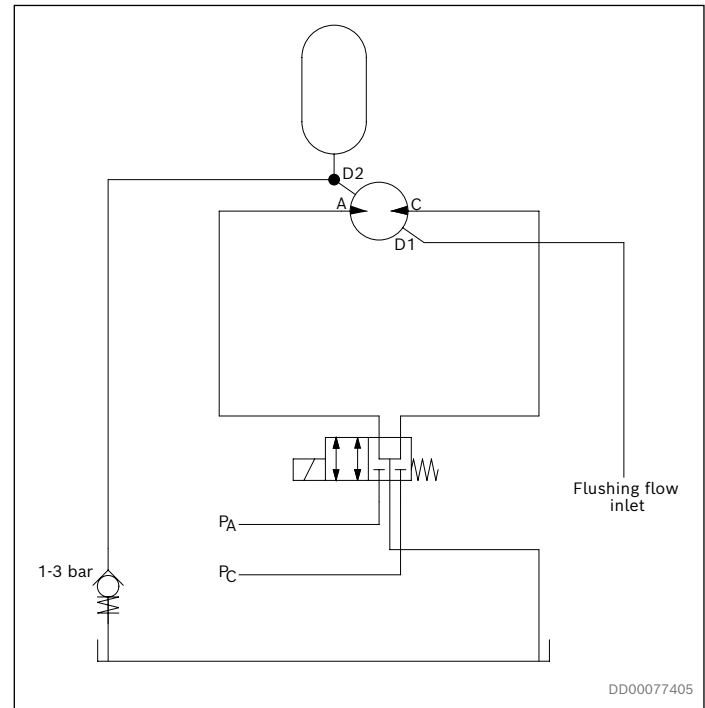
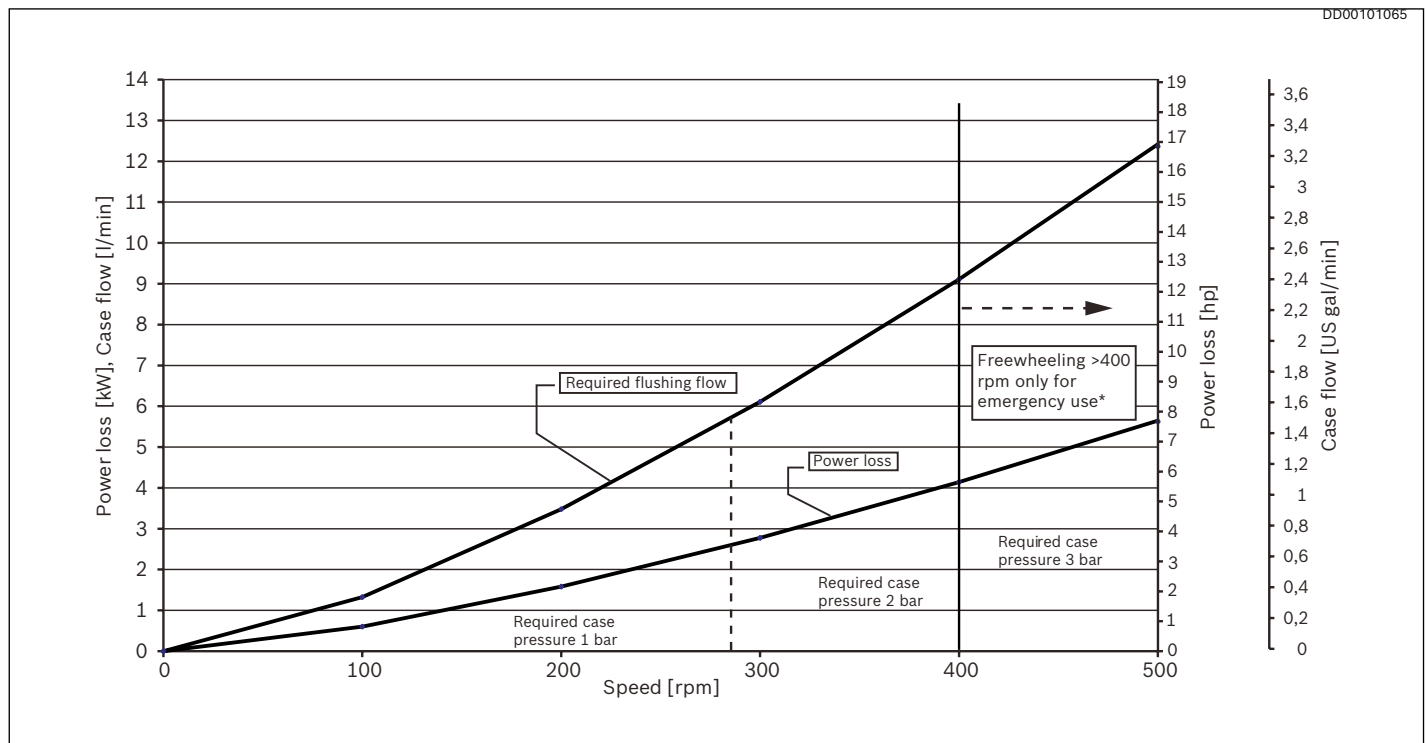

Fig. 48: Schematic principle freewheeling.
Fig. 49: Power loss freewheeling, oil viscosity 40 cSt (187 SSU)
The basic function of the freewheeling is to have the motor housing (via drain ports D1, D2 or D3) lightly pressurized (see Fig. 49) while main ports A and C are without restriction drained directly to the fluid reservoir. See Fig. 48. The case pressure introduced in the normal drain connection will then act on the outer surface of each piston assembly pressing them towards the motor centre.
3. An adequate pressure introduced into the drain ports of the motor. See Fig. 49 (required case pressure).
- The motor case must be pressurized all the time when the motor is in freewheeling mode, see *Fig. 49*.
- The motor case must be flushed all the time when the motor is in freewheeling mode, see *Fig. 49*.
An accumulator can be added into the circuit to shorten the time to retract all the pistons completely, see *Fig. 48*.
An accumulator can also be added into the circuit to reduce the pressure spikes in the motor case when the pistons are extracted, see *Fig. 48*.
Even if the freewheeling operation takes place with lowest possible friction in the main bearings and with no flow losses in the main ports of the motor, a powerloss must take place in the motor case due to viscous friction between moving and fixed parts. This powerloss is expressed in Fig. 49.
Case flushing is required to prevent overheating, see diagram Fig. 49
In order to accomplish proper freewheeling, a case pressure according to Fig. 49 has to be maintained. On the other hand, a higher casing pressure than 2 bar (29 psi) should be avoided in order to achieve good service life of the main radial shaft seal.